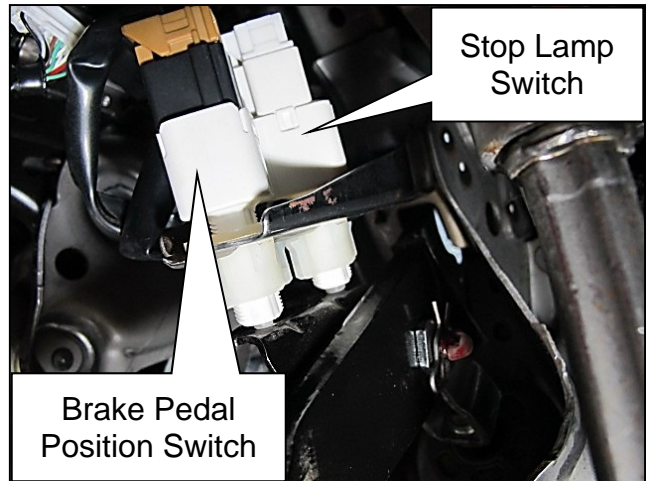

Figure 11
**IMPORTANT:** The stop lamp switch (white connector) must be in the upper position (Figure 11).